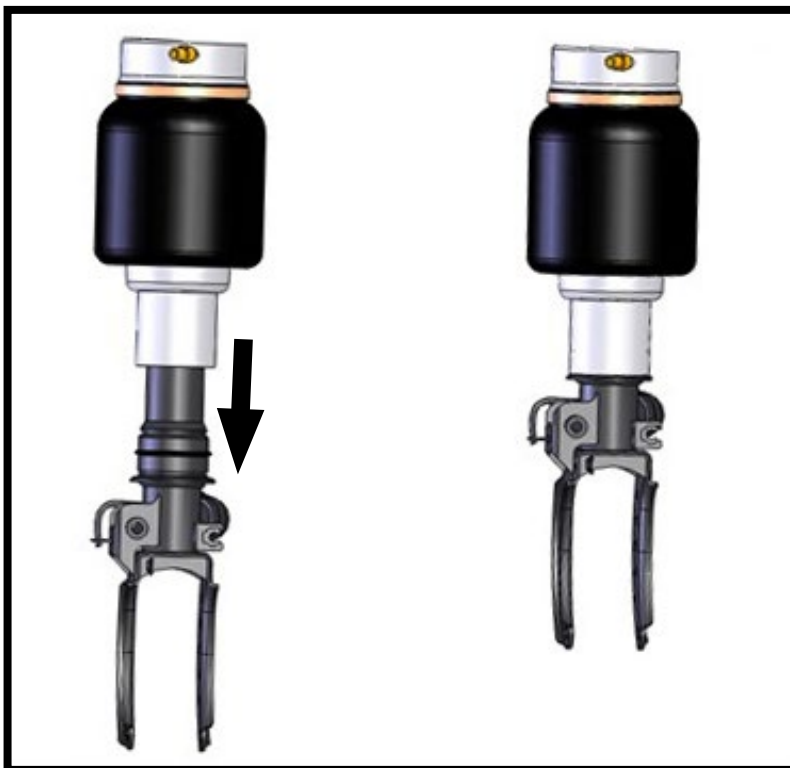

FIGURA 20-5
6. INSTALE EL NUEVO MUELLE NEUMÁTICO EN EL AMORTIGUADOR. (FIGURA 20-5)